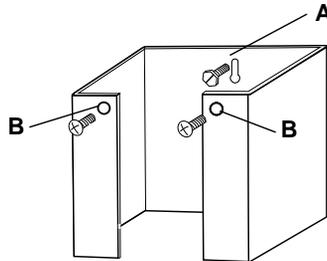

Figure 2-1. Wall Mounting the 3865
2. Using a fastener appropriate to the wall construction, insert and secure the fastener (**A** in Figure 2-1). Let the head protrude slightly.
6. Secure the cradle to the bracket (**B** in Figure 2-1) using two #10 metal screws.